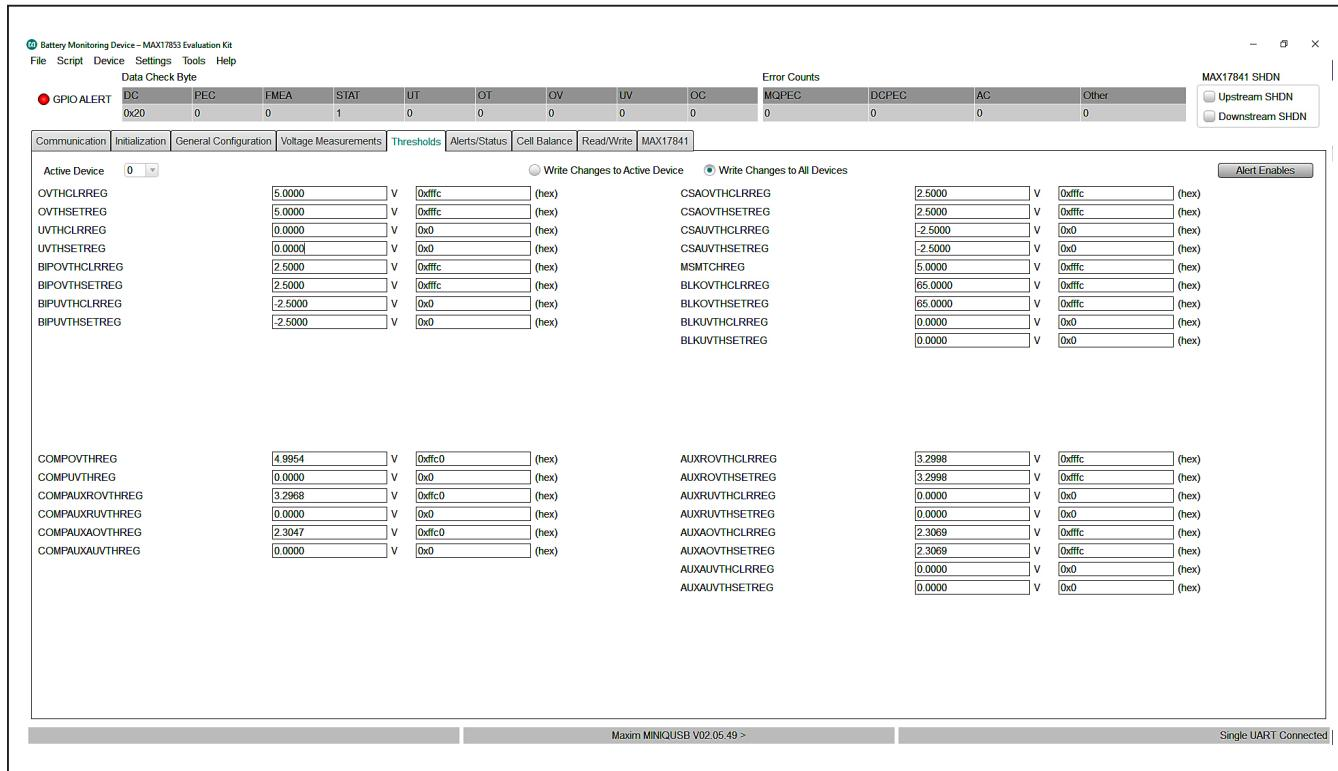

Figure 18. Thresholds Tab
The lower right-hand corner in the **Voltage Measurements** tab displays a legend that indicates visually the state of each voltage measurement and comparator alert. For the visual alert to be active, the thresholds must be set and enabled in the **Thresholds** tab (Figure 18).
Clicking on the **Thresholds** tab (see Figure 18) opens the panel where users can enter OV/UV and fault thresholds in hex value or voltage (see Figure 19).
- 5) Select the **Thresholds** tab (Figure 18) and set the comparator and cell voltage threshold. Set **OVTHSETREG** to 1.41V, **UVTHSETREG** to 1.2V, **COMPOVTHREG** to 1.5V, and **COMPUVTHREG** to 1.1V (threshold values automatically adjust to the closest hex value).